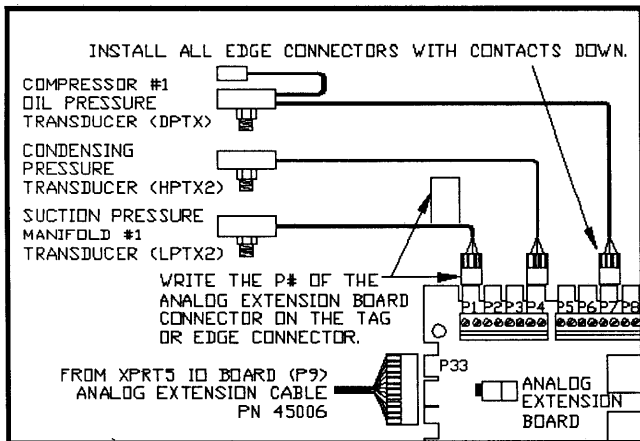

Figure C-3: Pressure Transducer Wiring
The HPTX2, LPTX2 and DPTX pressure transducers should be connected to the Analog Extension Board as shown in **Figure C-3**. (See **Section F: Specifications, DPTX Oil Pressure Transducer** for compressor connections.) The 8 foot cable length for each transducer should be adequate to connect the transducer plugs directly to the Analog Extension Board without splicing.
- To reduce the chance of mixing cables or plugging cables onto the wrong connector, Altech recommends that the Analog Extension Board's connector number be written on the edge connector or tag as shown in **Figure C-3** (example: "P1", "P2", etc.).